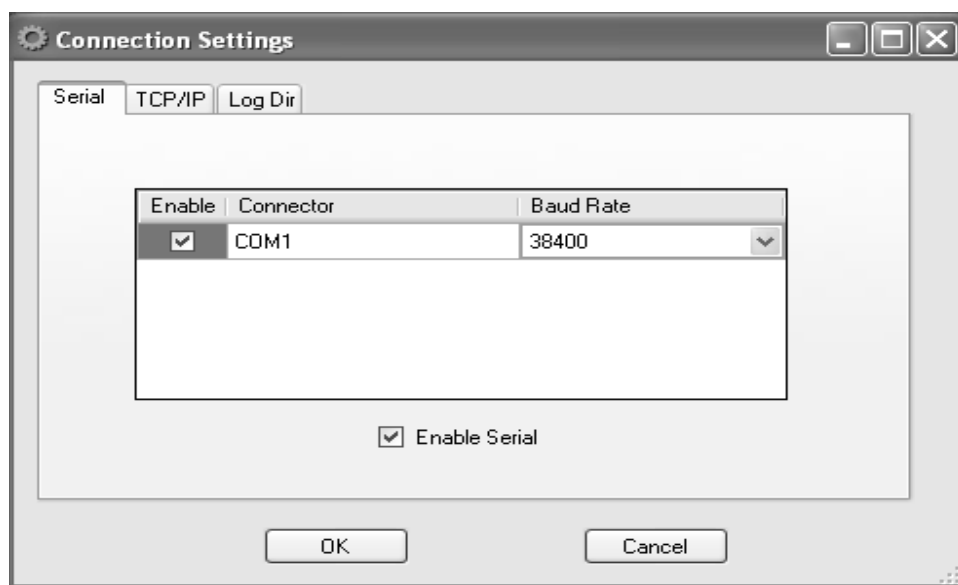

Fig. 2-13. Screenshot of ‘Serial’ selection in the Connection Settings dialog box
4. Click the ‘Main’ menu of the UGA control software, and select ‘Connection Settings’. The following dialog box will appear as shown in Fig. 2-13.